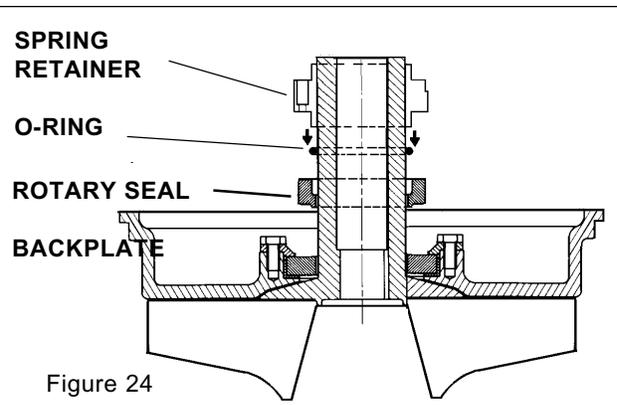

Figure 24
4. Place impeller on a clean flat surface, shaft end up, and slide the assembled backplate onto the impeller shaft. (Figure 24)
5. Carefully place the rotary seal in position over the impeller shaft and down against the stationary seal. (Figure 24)
4. Lubricate and slide the seal O-ring onto the impeller shaft. (Use the spring retainer as a tool to push the O-ring into the rotary seal.) (Figure 24)